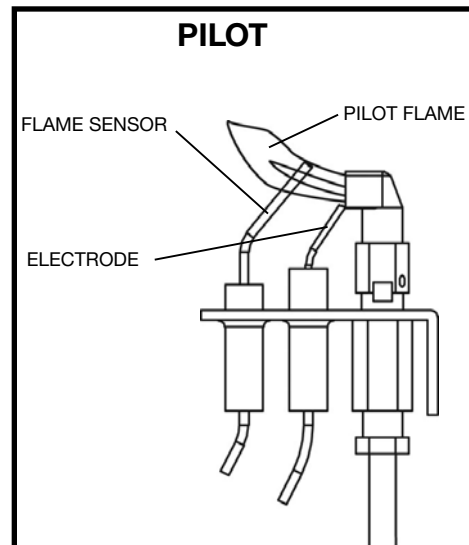

Figure 73: Pilot assembly.
- B) Check the pilot system for proper flame size and operation. Clean pilot free of soot, dust or any other deposits (Figure 73)